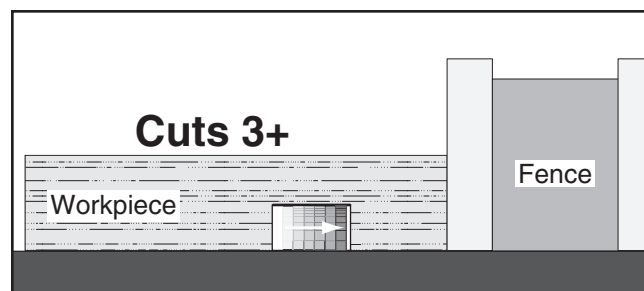

Figure 81. Additional single blade dado cuts.
9. Make additional cuts (see **Figure 81**) in the center of the dado to clear out the necessary material. The dado is complete when the channel is completely cleared out.